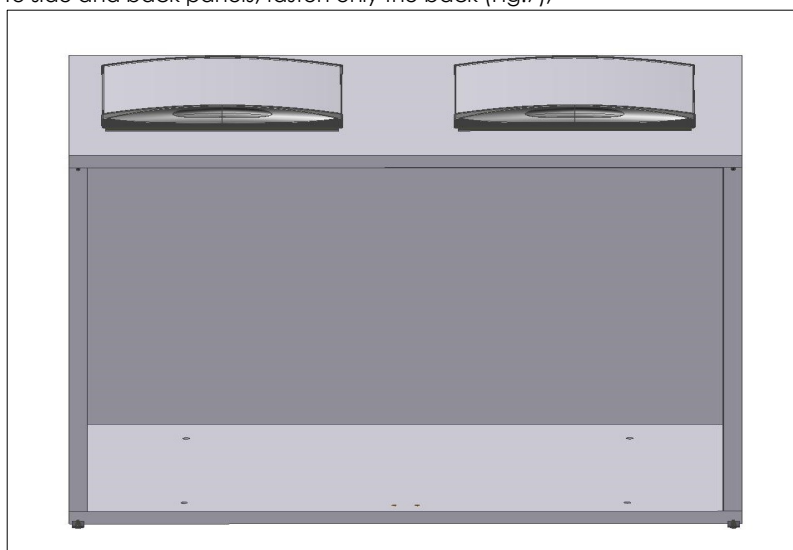

Fig. 7
- Fix the **panel of the top** to side and back panels, fasten only the back (Fig.7);